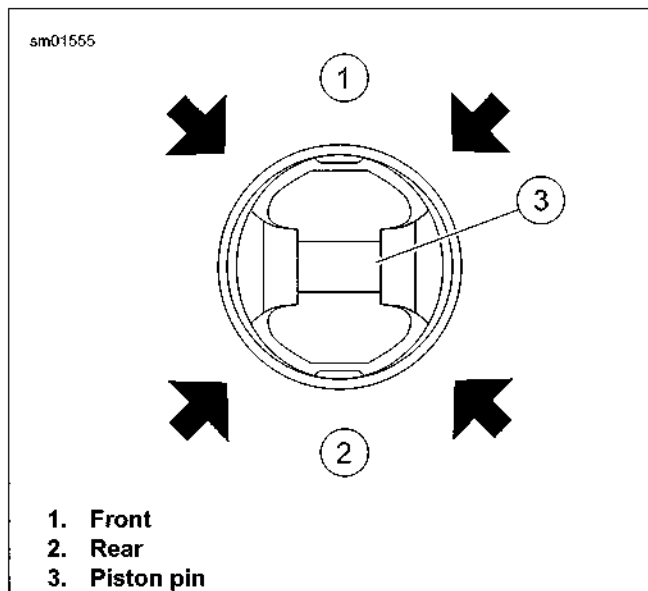

Figure 3-65. Position Ring End Gaps at Arrows
- See Figure 3-65. Make sure the piston ring end gaps are properly positioned as shown.